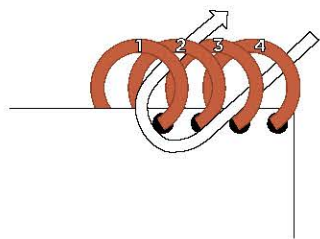

FIG. 1
3. Choose the corner of the tool that will best fit the size jump rings you want to use. Attach the 4 open **base-row** jump rings to the tool and then close them (FIG. 1). These are the 4 starter jump rings (first 4 jump rings of the base row).
4. Thread 1 open (green) jump ring through starter jump rings 4 and 3, moving right to left from behind the starter tool. Then thread the jump ring through starter jump rings 1 and 2, moving left to right from the front of the starter tool, as marked in figure 1. You will use a TE connection between jump rings 4 and 3, an AE connection between jump rings 2 and 3, and a TE connection between jump rings 1 and 2 (page 22).